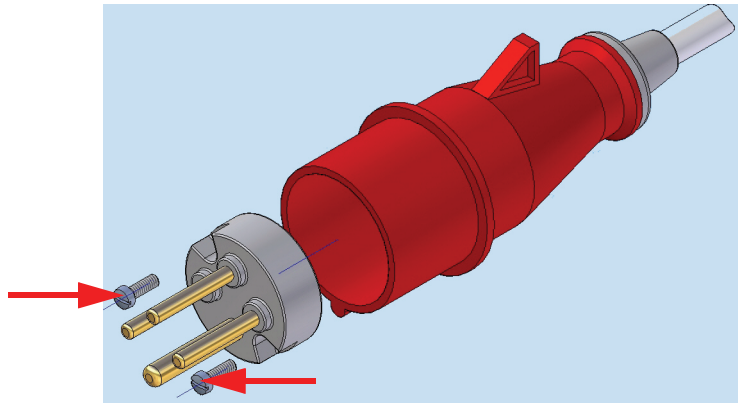

Fig. 9 Mains plug
- 17) undo the screws shown in **Fig. 9** on page 35.
- 20) Close the plug using the screws as shown in **Fig. 9**.